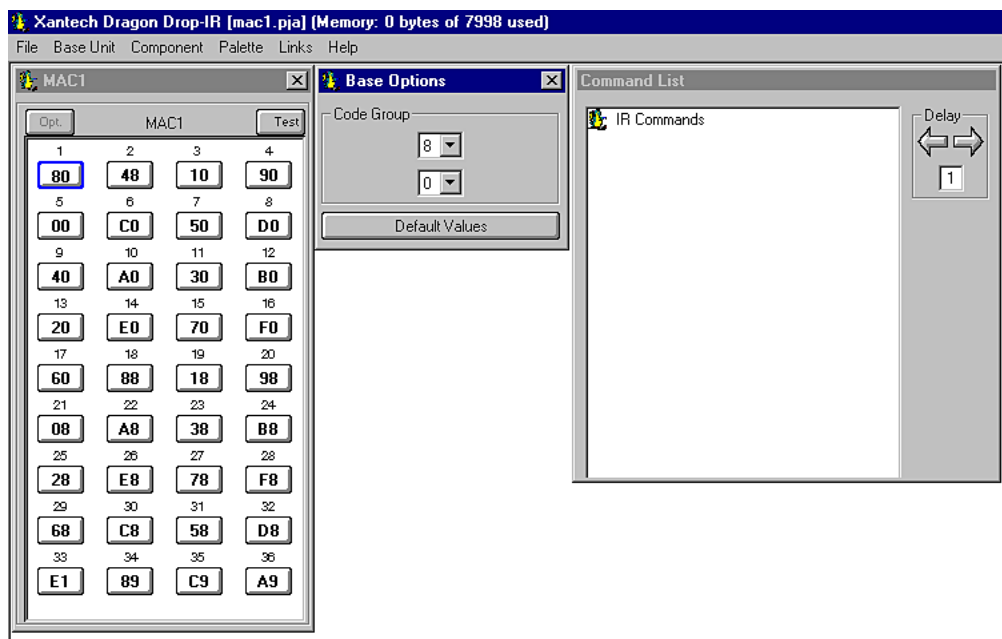

Figure 6 – MAC1 Base Options Window
2. Click the “Options” button on the MAC1 window to confirm code group setting (**Figure 6**).